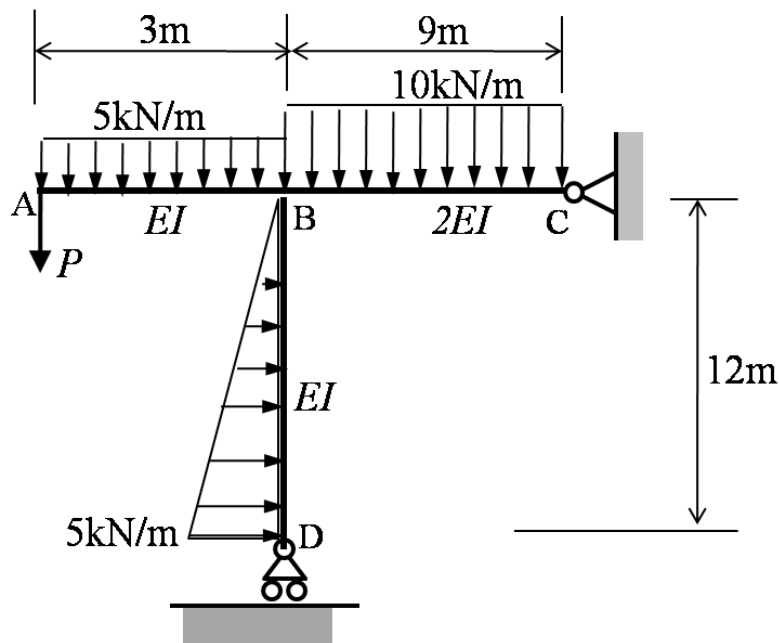

Figure 1
- (b) The frame shown in **Figure 1** is pinned supported at C and roller supported at D. Uniformly distributed load with intensity of 5kN/m and 10kN/m act along member AB and BC, respectively. A linear distributed load varying from 5kN/m at D to 0 kN/m at B acts along vertical member BD. Free end A of the frame is subjected to a point load of 20kN. For the frame problem shown in Figure 1, draw the corresponding virtual system for the determination of :